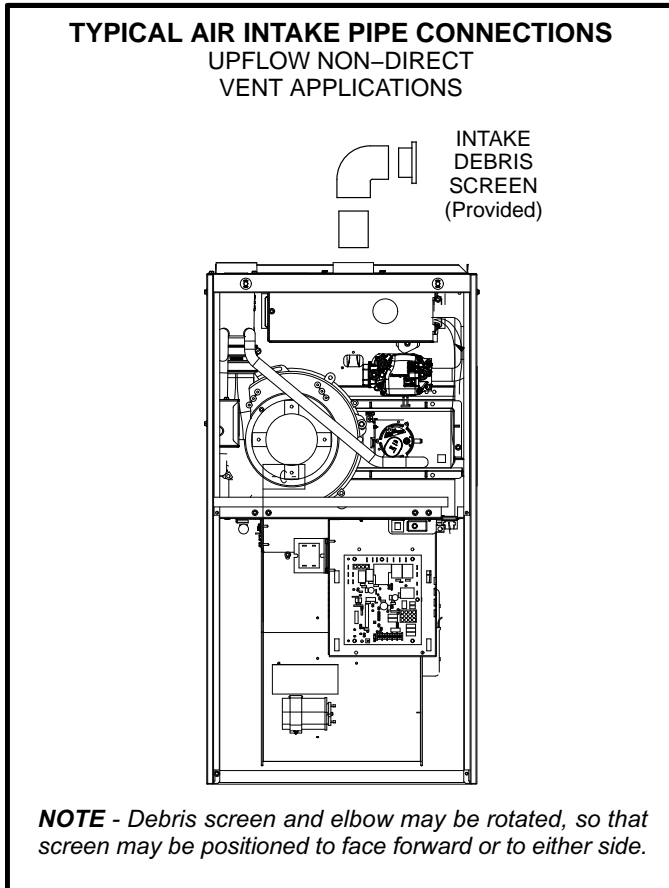

FIGURE 26
- 1 - Use field-provided materials and the factory-provided air intake screen to route the intake piping as shown in figure 26 or 27. Maintain a minimum clearance of 3" (76mm) around the air intake opening. The air intake opening (with the protective screen) should always be directed forward or to either side in the upflow position, and either straight out or downward in the horizontal position.